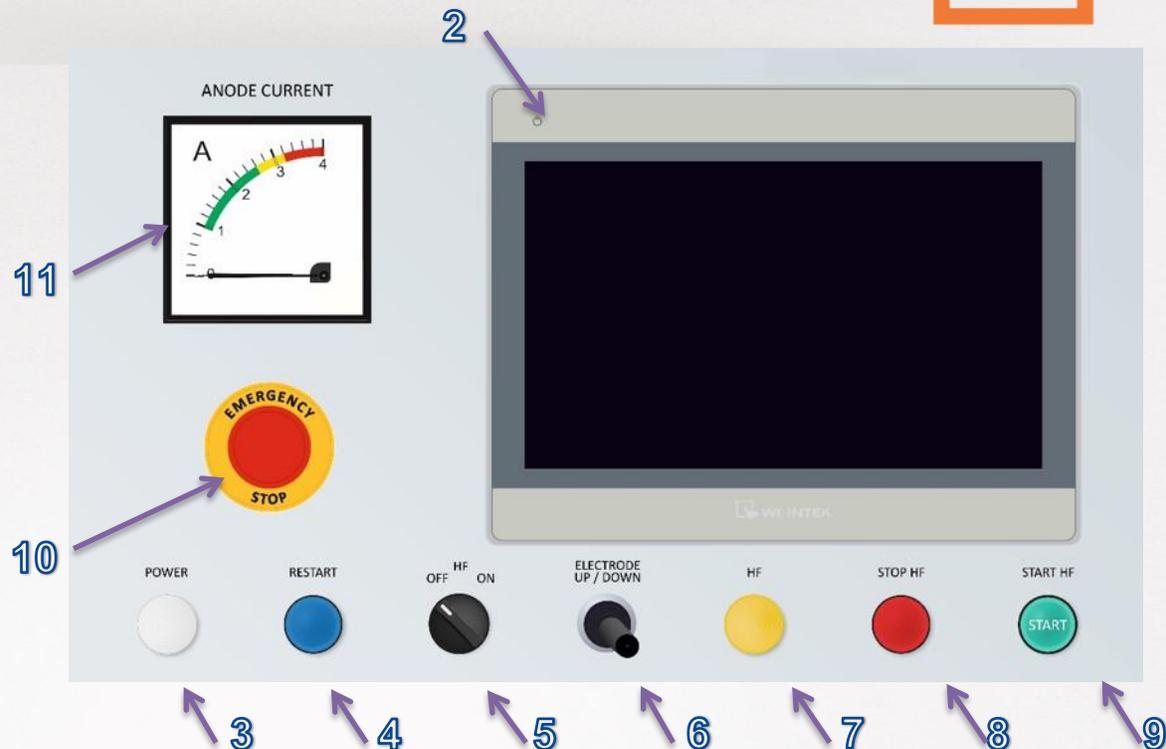

Fig.5. The arrangement of the controls and indicators on the control panel:
2. **HMI PANEL** – the touch-sensitive panel (Fig.5) should be used for changing the machine's setting parameters and it is supposed to become a reliable source of information about the current state of the welding machine. See chapter 0. for more information about performing the servicing procedure applying to the touch-sensitive panel.
3. **POWER** – an indicator, which flashes white when the machine is connected to the power supply (Fig.5).
4. **RESTART** – the blue push-button (Fig.5) which should be used to restart the machine control and protection system whenever the alarm message is displayed on the HMI panel.
6. **ELECTRODE UP/DOWN** – a joystick with the help of which the electrode can be either lifted up or lowered (Fig.5).
7. **HF** - when the indicator flashes yellow it means that the HF welding process is on (Fig.5).
8. **STOP HF** – the red push-button (Fig.5) is designed for switching off the process of high frequency welding.
9. **START HF** – the red push-button (Fig.5) is used for switching on the process of high frequency welding.
10. **EMERGENCY STOP** - the red mushroom-headed push-button (Fig.5) it is a button that should be pressed only when the functions of the machine need to be halted immediately or when anything regarding the machine's functions or the operator's surroundings pose a threat to the production or safety.
11. **ANODE CURRENT** - the panel ammeter (Fig.5) is supposed to indicate the value of current intensity in La anode circuit and should enable the operator to conduct the vision inspection of the welding process (The Generator Full-load Characteristics).